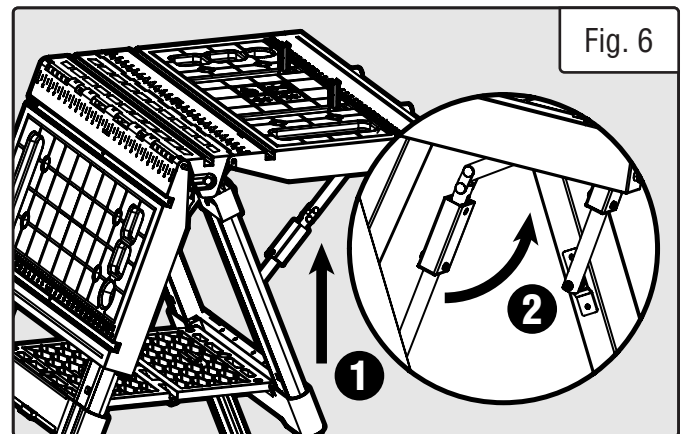

Fig. 6
1. Lift the table top up and push the table bracket inward to collapse the bracket and fold down the table top as shown in Fig. 6